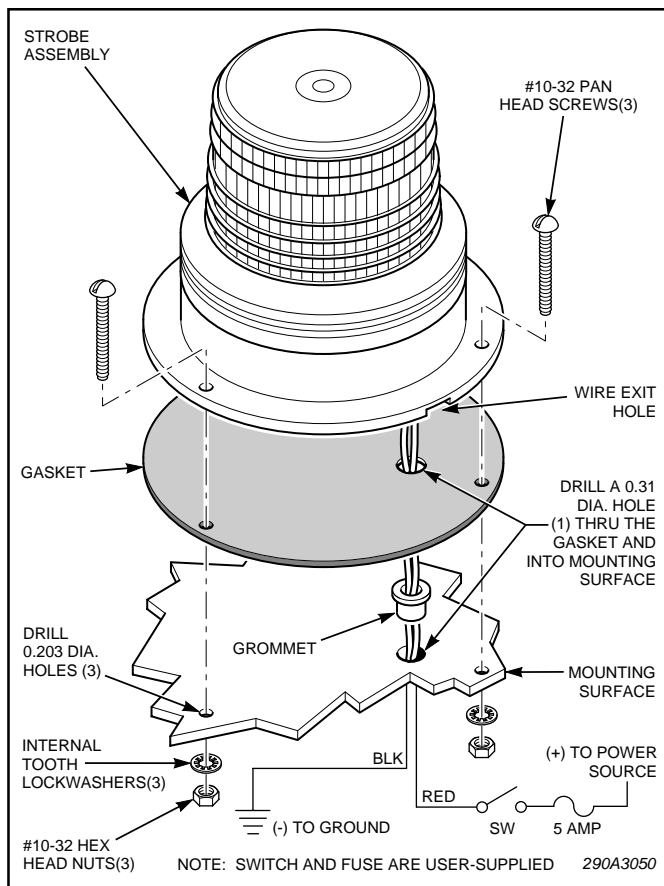

Figure 1.
To install the light on the mounting surface, see figure 1 and proceed as follows:
F. Route the red and black wires through the rubber gasket and through the supplied grommet in the mounting surface. Apply a silicone sealing compound around the wire exit hole in the light base (see figure 1).